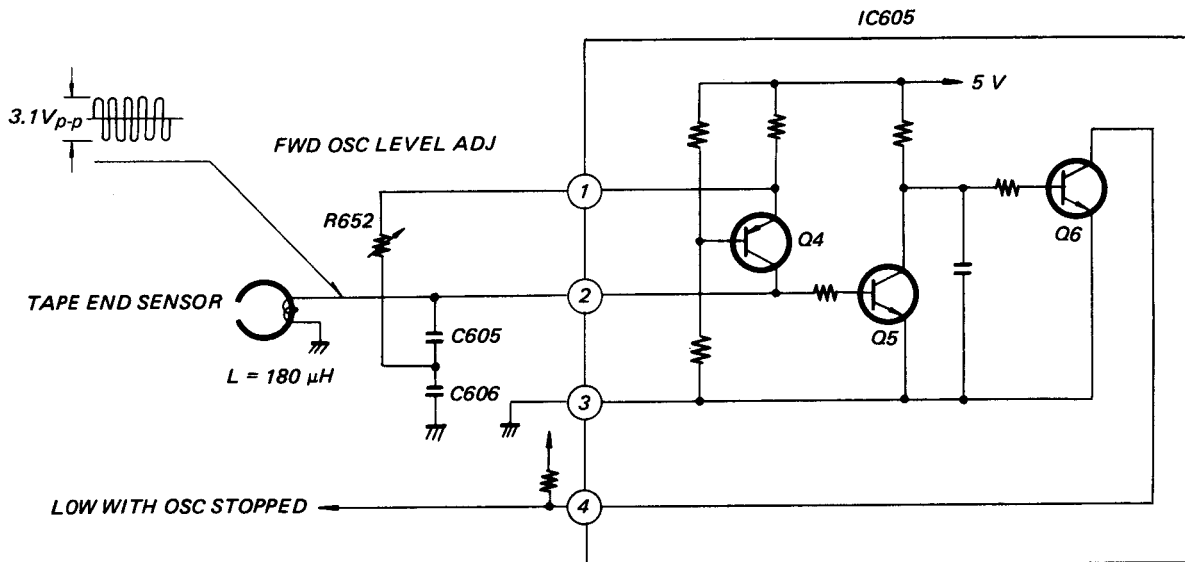

Fig. 3-71 Tape End Detector Circuit
(1) Tape end detector: The tape beginning detector and tape end detector circuits are the same in the construction. The tape end detection circuit having a forward sensor, therefore, is described below. The tape end detector circuit, as shown in Fig. 3-71, is made up of a LC oscillator, consisting of Q4, inductance component of the tape sensor, and capacitor.